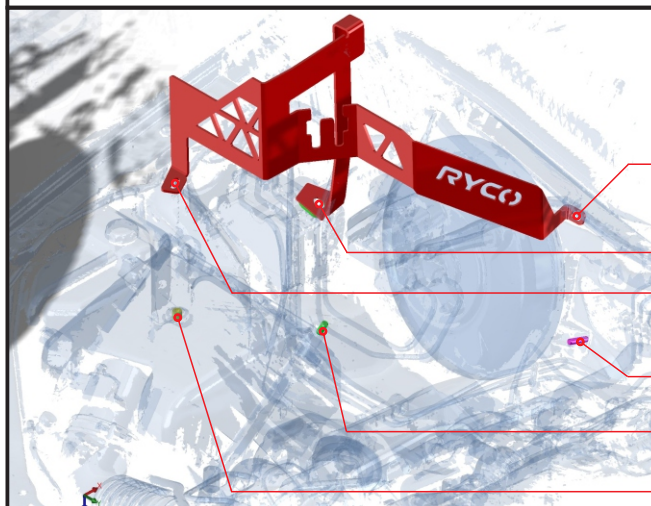

FIG. 9B FB9810CC SLOT/THREAD/STUD LOCATIONS
6. Referring to FIG. 9B, we recommend first engaging the bracket Slot B on to engine Stud B under the brake pipes. Then proceed to line up Slot A with Thread A behind the air box. Finally engage Slot C onto Firewall Stud C at the brake booster.